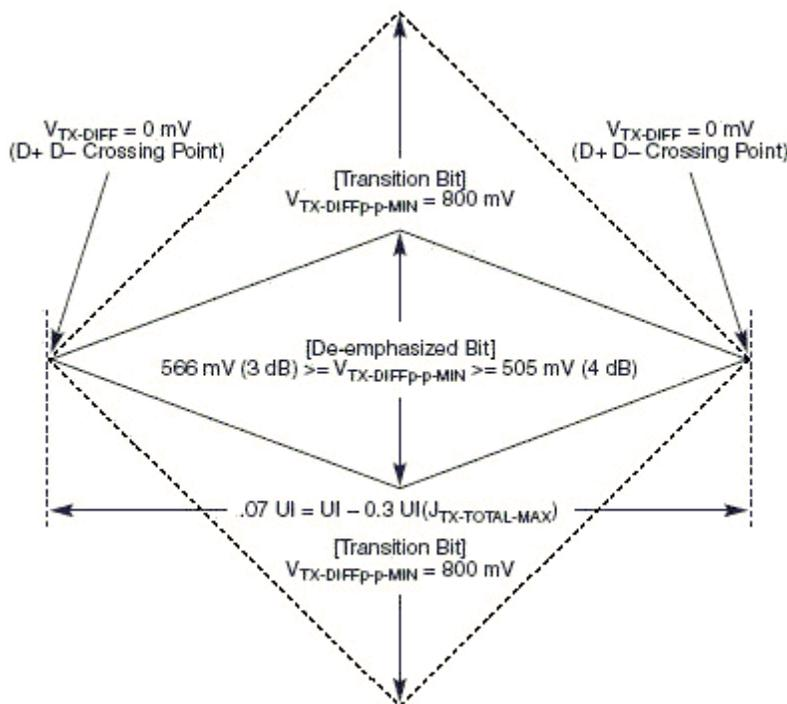
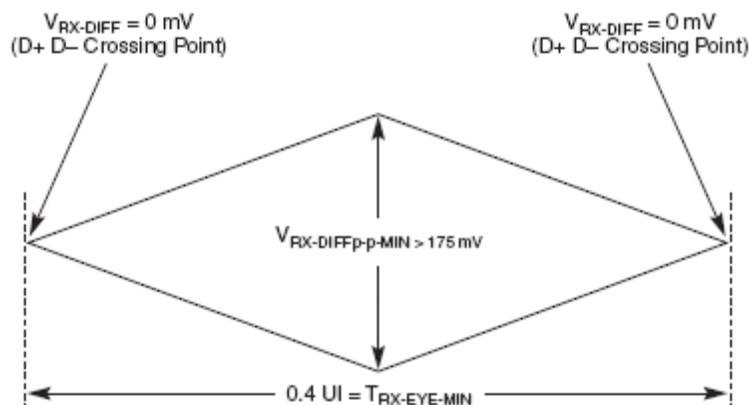
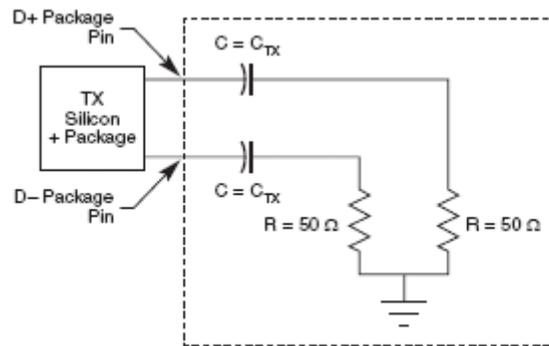

Figure 55. Minimum Transmitter Timing and Voltage Output Compliance Specifications
Figure 56. Minimum Receiver Eye Timing and Voltage Compliance Specification
Figure 57. Compliance Test/Measurement Load
2. Specified at the measurement point into a timing and voltage compliance test load as shown in Figure 57 and measured over any 250 consecutive TX UIs. (Also refer to the transmitter compliance eye diagram shown in Figure 55.)
4. The Transmitter input impedance shall result in a differential return loss greater than or equal to 12 dB and a common mode return loss greater than or equal to 6 dB over a frequency range of 50 MHz to 1.25 GHz. This input impedance requirement applies to all valid input levels. The reference impedance for return loss measurements is 50 ohms to ground for both the D+ and D- line (that is, as measured by a Vector Network Analyzer with 50 ohm probes—see Figure 57). Note that the series capacitors C_{TX} is optional for the return loss measurement.
5. Measured between 20-80% at transmitter package pins into a test load as shown in Figure 57 for both V_{TX-D+} and V_{TX-D-} .
The TX eye diagram in Figure 55 is specified using the passive compliance/test measurement load (see Figure 57) in place of any real PCI Express interconnect + RX component.
- Specified at the measurement point and measured over any 250 consecutive UIs. The test load in Figure 57 should be used as the RX device when taking measurements (also refer to the Receiver compliance eye diagram shown in Figure 56). If the clocks to the RX and TX are not derived from the same reference clock, the TX UI recovered from 3500 consecutive UI must be used as a reference for the eye diagram.
- The Receiver input impedance shall result in a differential return loss greater than or equal to 15 dB with the D+ line biased to 300 mV and the D- line biased to -300 mV and a common mode return loss greater than or equal to 6 dB (no bias required) over a frequency range of 50 MHz to 1.25 GHz. This input impedance requirement applies to all valid input levels. The reference impedance for return loss measurements for is 50 ohms to ground for both the D+ and D- line (that is, as measured by a Vector Network Analyzer with 50 ohm probes - see Figure 57). Note: that the series capacitors CTX is optional for the return loss measurement.
The RX eye diagram in Figure 56 is specified using the passive compliance/test measurement load (see Figure 57) in place of any real PCI Express RX component.
Note: In general, the minimum Receiver eye diagram measured with the compliance/test measurement load (see Figure 57) will be larger than the minimum Receiver eye diagram measured over a range of systems at the input Receiver of any real PCI Express component. The degraded eye diagram at the input Receiver is due to traces internal to the package as well as silicon parasitic characteristics which cause the real PCI Express component to vary in impedance from the compliance/test measurement load. The input Receiver eye diagram is implementation specific and is not specified. RX component designer should provide additional margin to adequately compensate for the degraded minimum Receiver eye diagram (shown in Figure 56) expected at the input Receiver based on some adequate combination of system simulations and the Return Loss measured looking into the RX package and silicon. The RX eye diagram must be aligned in time using the jitter median to locate the center of the eye diagram.
The reference impedance for return loss measurements is 50. to ground for both the D+ and D- line (i.e., as measured by a Vector Network Analyzer with 50. probes—see Figure 57). Note that the series capacitors, CTX, are optional for the return loss measurement.
The AC timing and voltage parameters must be verified at the measurement point, as specified within 0.2 inches of the package pins, into a test/measurement load shown in Figure 57.